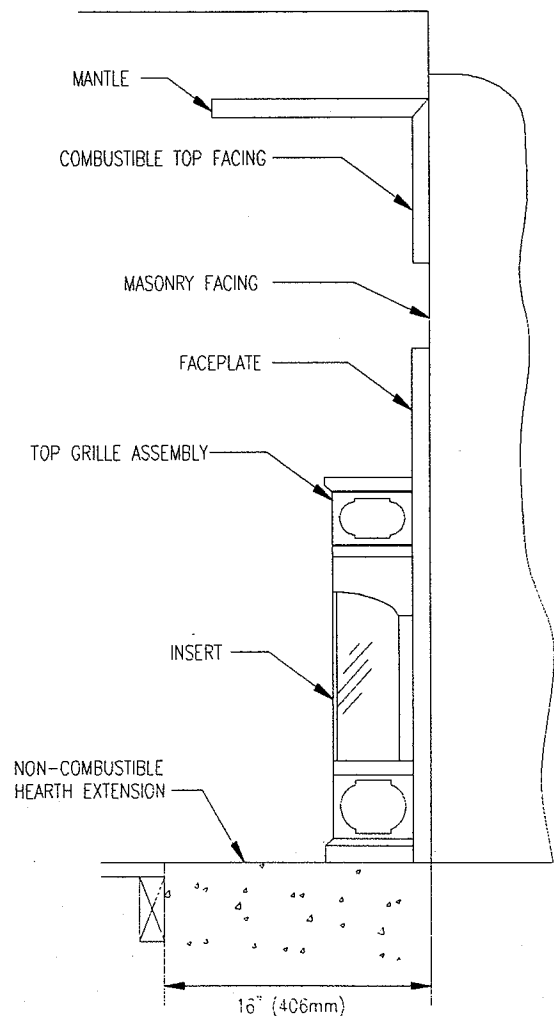

Figure 5b
3. When installing the unit flush to the flooring, there must be an 16" non-combustible hearth extension (see Figure 5b).